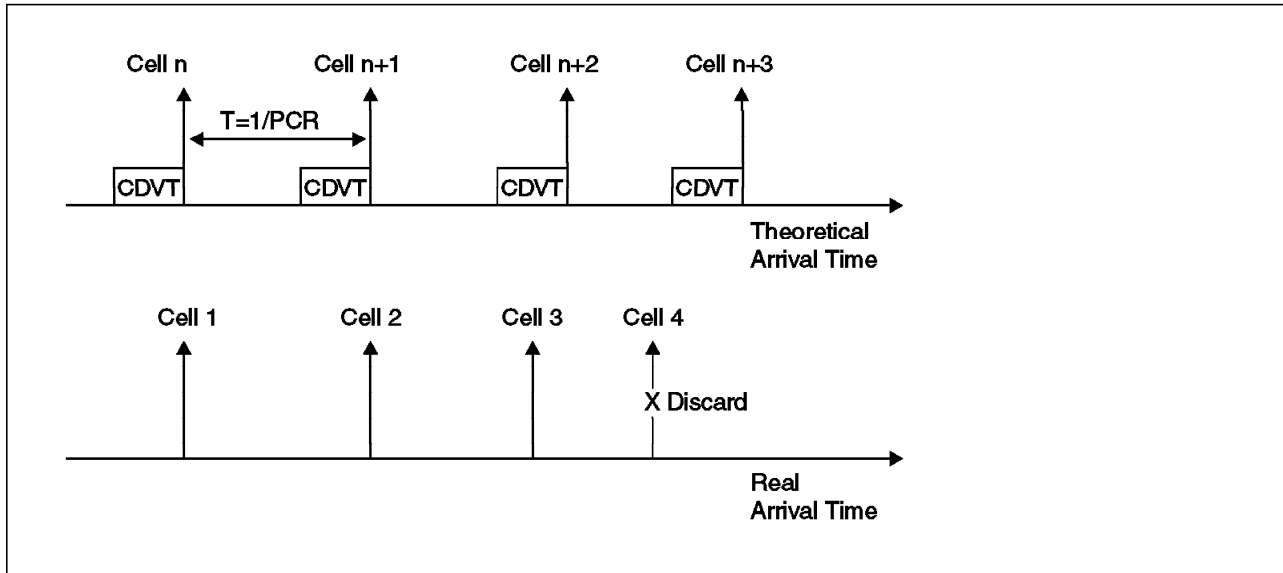

Figure 98. CDVT Tolerance Example
- CDVT specifies the maximum delay between the arrival time (1/PCR) and an early arrival time for each cell. Figure 98 on page 121 shows an example of policing incoming cells using PCR and CDVT: cell 3 arriving within PCR and CDVT is accepted while cell 4 arriving ahead of the specified tolerance (CDVT) is discarded.